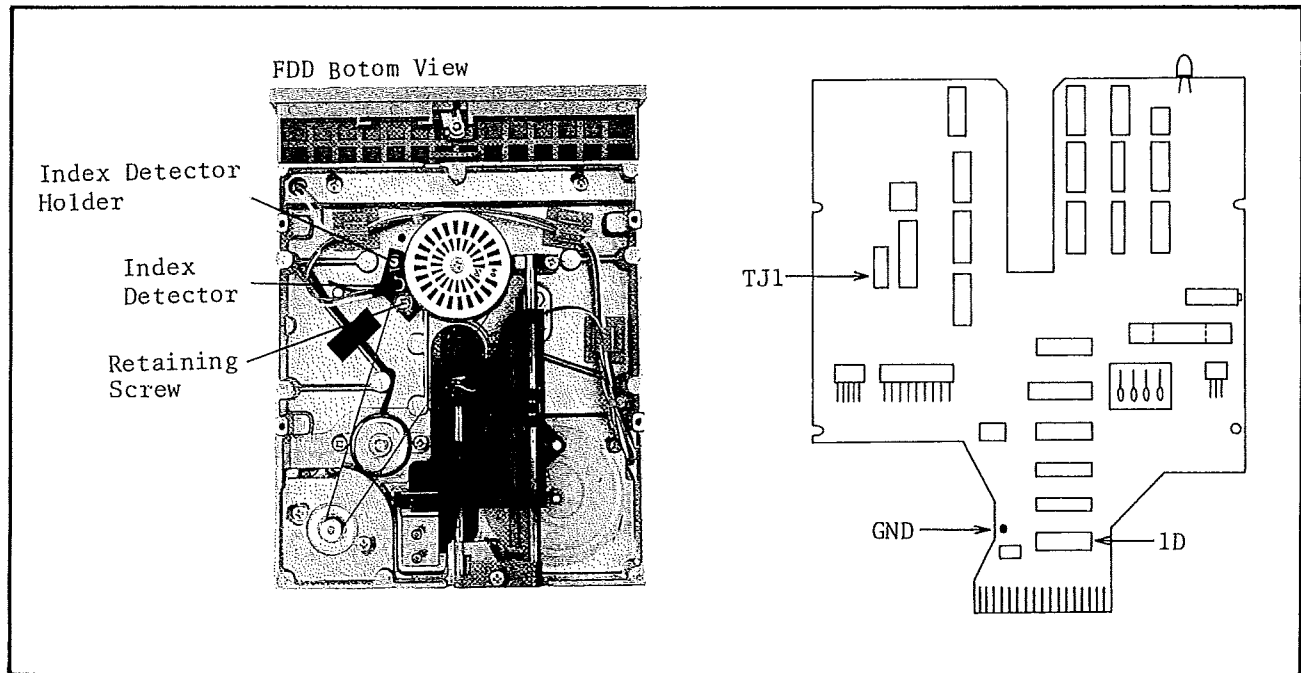

Figure 5-40. Check/Adjustment Point Locations.
1. Connect oscilloscope channel A input to TJ1 pin 9 and channel B input to TJ1 pin 7 (see Figure 5-40 for locations) on the flexible-disc Drive (FDD) PC Board using 10 : 1 Divider Probes. Also, connect EXT TRIGGER input to 1D pin 3 (see Figure 5-41 for location) for the external trigger.
7. Loosen the retaining screw of the index detector (photo transistor) holder (see Figure 5-40 for the location).